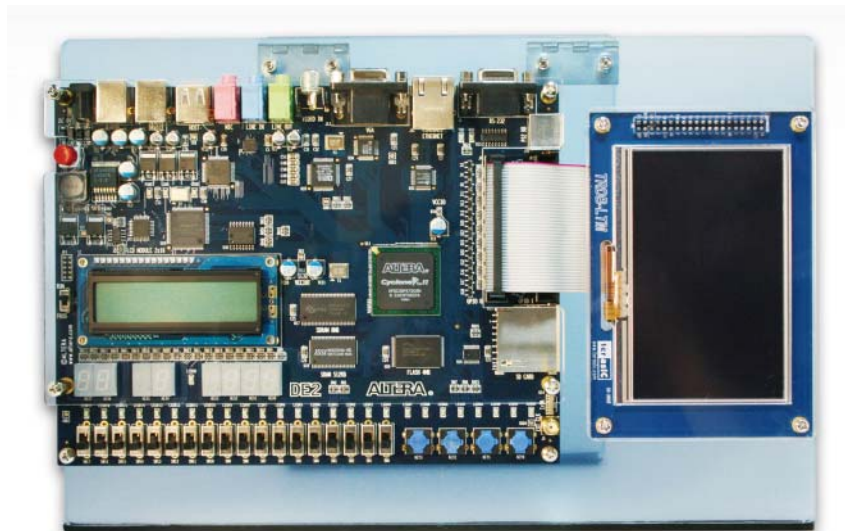
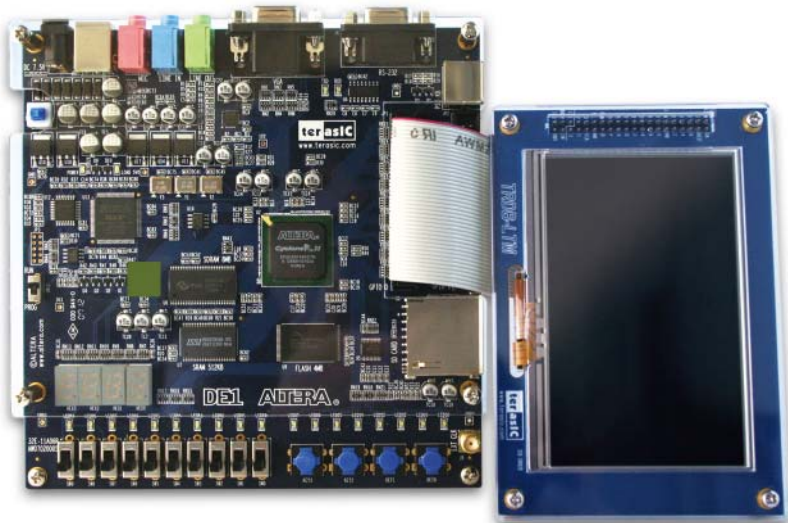

Figure 1.3 Connect the other end of IDE cable to the DE2 board's expansion port (innermost expansion port)
Figure 1.4 Connect the other end of IDE cable to the DE1 board's expansion port (innermost expansion port)
2. Connect the other end of the IDE cable to your DE2/DE1 board's innermost expansion port (JP1) as shown in Figure 1.3 and Figure 1.4